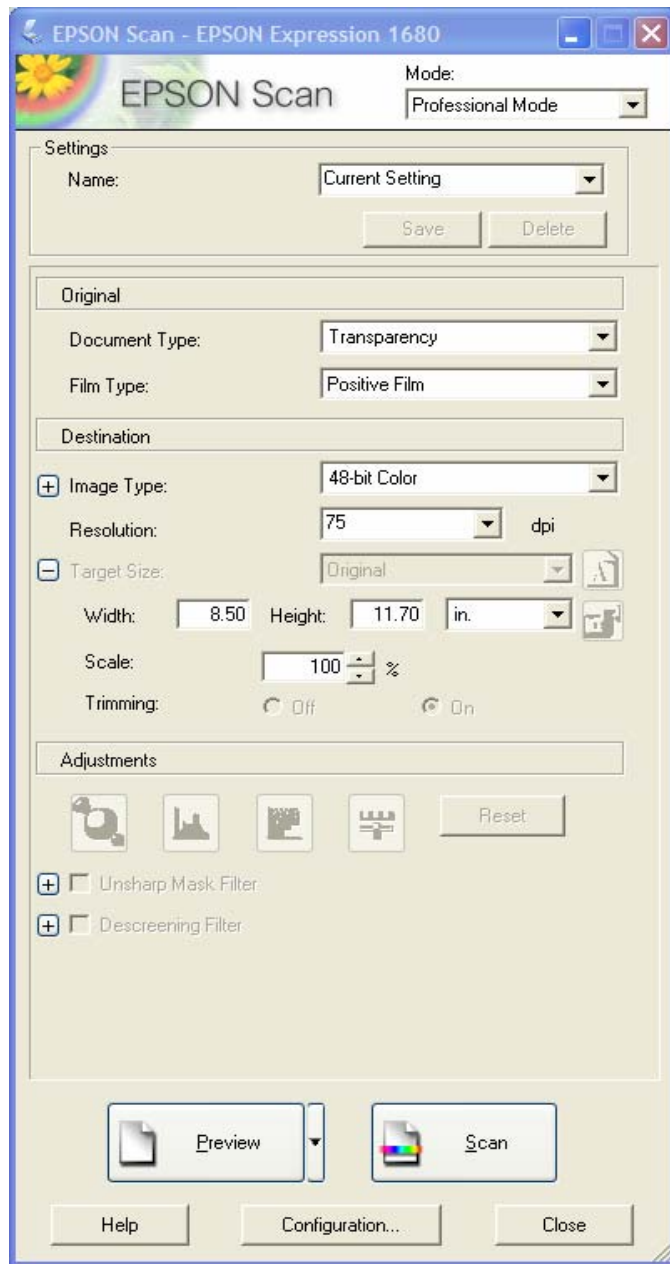

Figure 8
12. Having set up the Options and Selections settings in Steps 7-11 you are prepared for scanning. A window similar to Figure 8 will appear after you activate the “Scan” button. Go to the “Settings” box and select the setting from the drop-down menu. In this case it is “EBT Film”